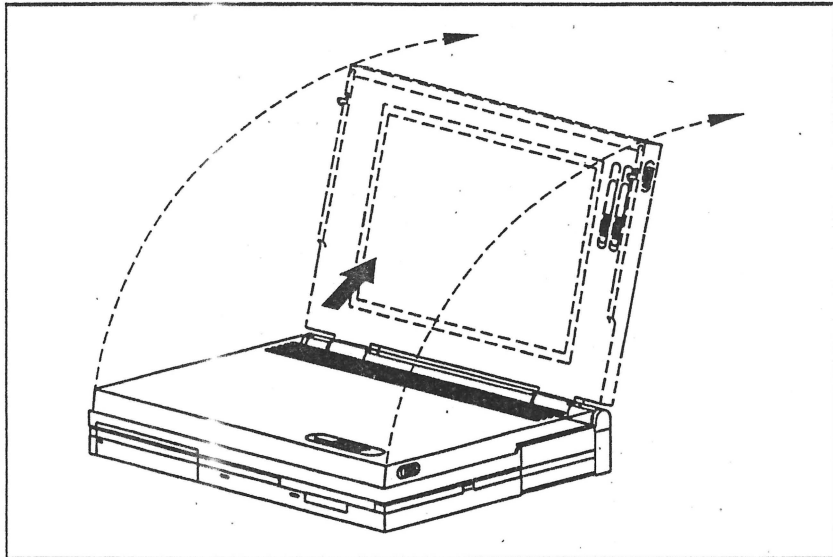

Figure 2-8. Rotating the Display to the Open Position
1. Rotate the display to the fully open position (Figure 2-8).